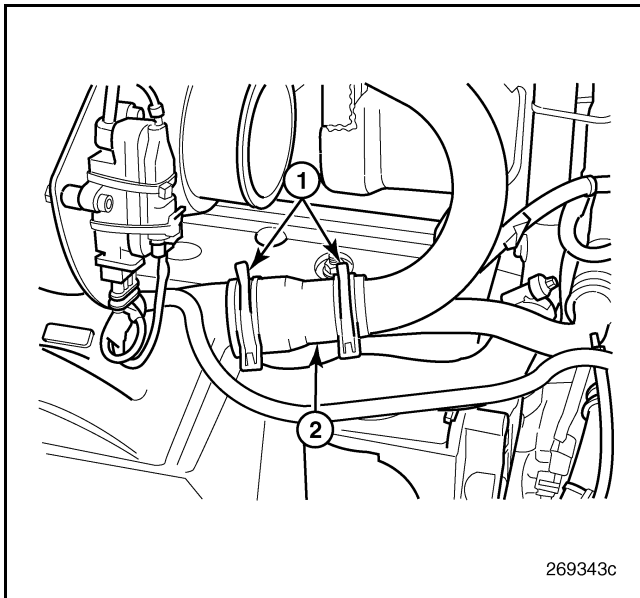

Figure 136 — Coupling Hose Clamps
- Loosen and remove the clamps from the coupling hose at each end of the cool tube (Figure 136).